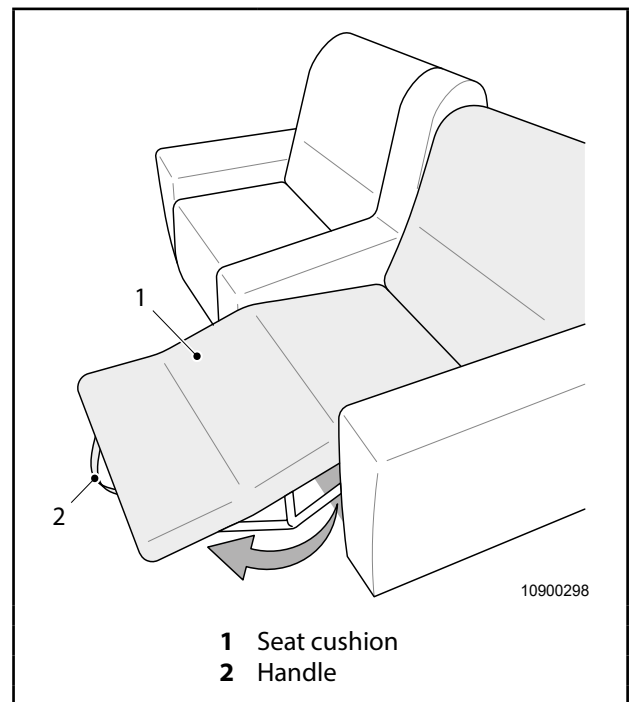

Fig. 42 Pulling out and pushing in the seat cushion
- ◆ Pull out the seat cushion (Fig. 42, item 1) using the handle (Fig. 42, item 2).
- ◆ Push in the seat cushion (Fig. 42, item 1) using the handle (Fig. 42, item 2).